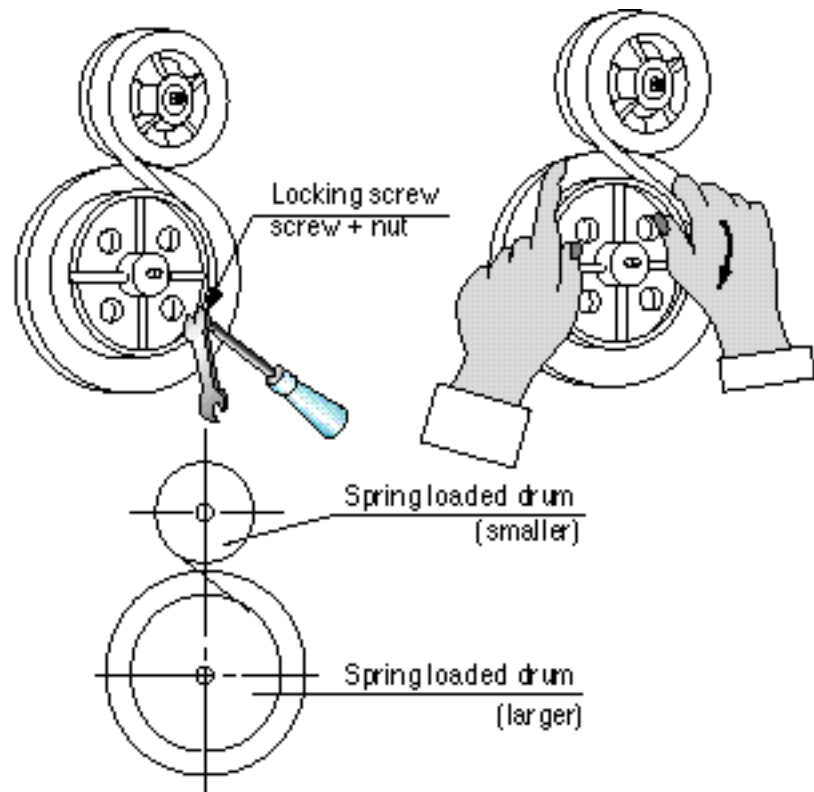

Fig. 4 Winding of spring motor
Setting Spring Motor (Refer to Fig. 4)
- (1) After making sure that the locking screw has been removed, fix the spring motor to the spring loaded drum(larger) with the screw and nut.
- (2) Then, turn the spring loaded drum(larger) in the direction indicated by arrow in Fig. 4
- (3) For fixing the spring loaded drum, be sure to turn the tape drum counterclockwise beforehand until the tape is free from looseness.
- (4) When the tank is kept empty, fix the spring motor to the tape drum by using the locking screw with two turns left on the spring loaded drum (smaller). When the tank is filled with a measuring liquid, actually measure liquid level and calculate number of turns to be wound around the spring loaded drum (larger) by the following equation: